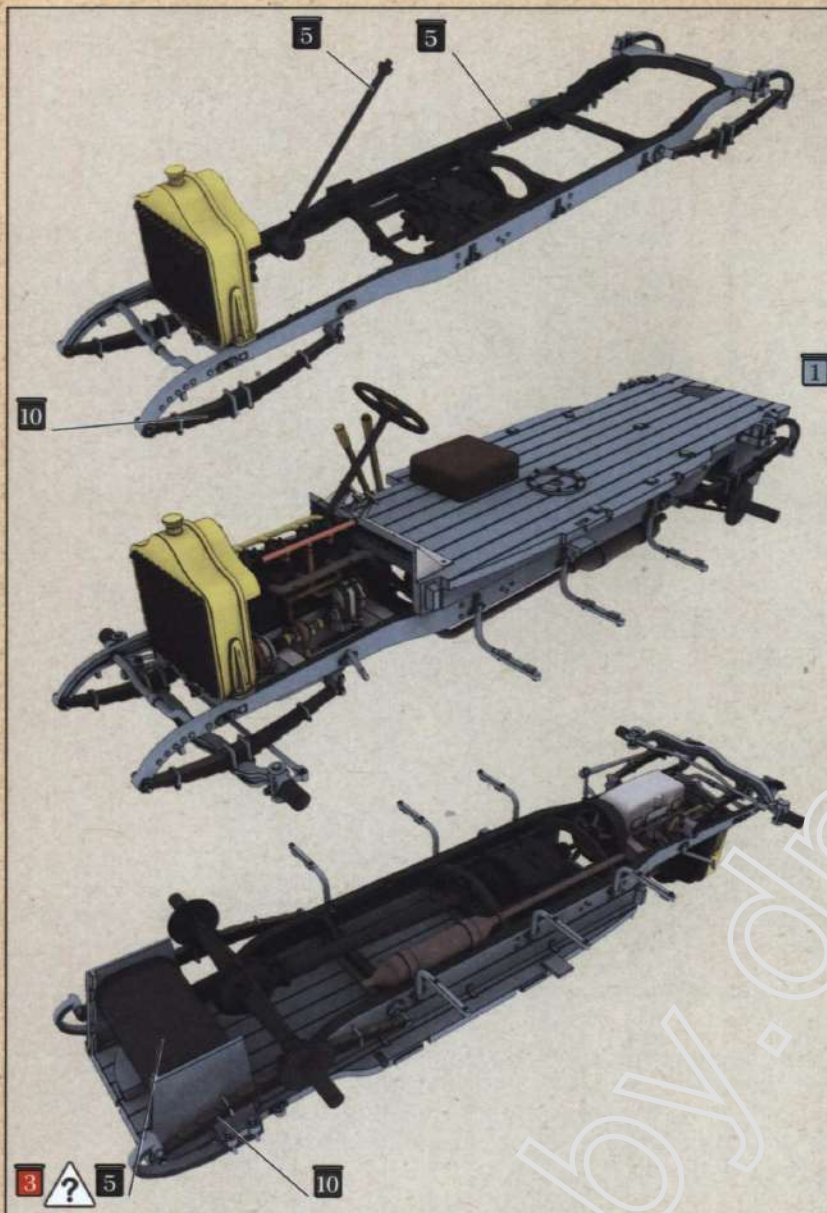

Fig. 11. Colours for the chassis
Step 5. Installation of the front cross tube, rear cross member and steering gear box with column. Check Fig.11 for colour reference
Step 9. Assembling and installing the wooden floor with pedals and a driver's seat. Check Fig.11 and 14 for colour reference